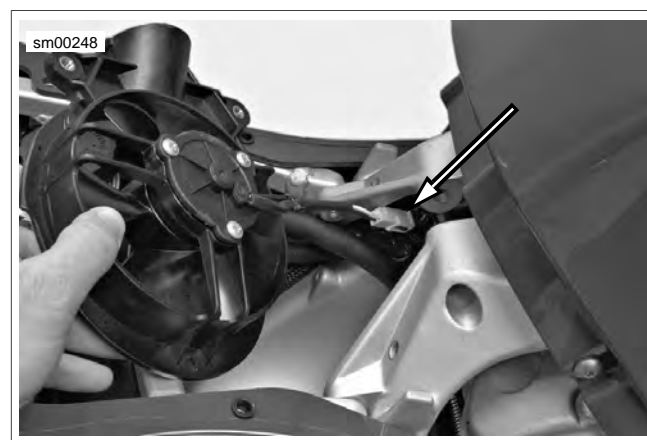

Figure 4-27. Cooling Fan Connector [97]
6. See Figure 4-27. Disconnect cooling fan connector [97].
1. See Figure 4-27. Connect cooling fan connector [97].